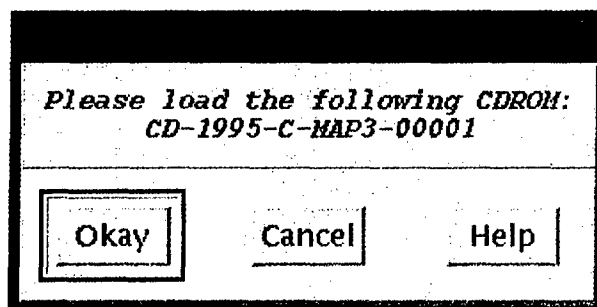

Fig. 86 — MMC prompt to load CAC CD
- 5) MMC will prompt the user to load the appropriate CAC CD (Fig. 86); load it into the CD changer caddy (Section 4.1).